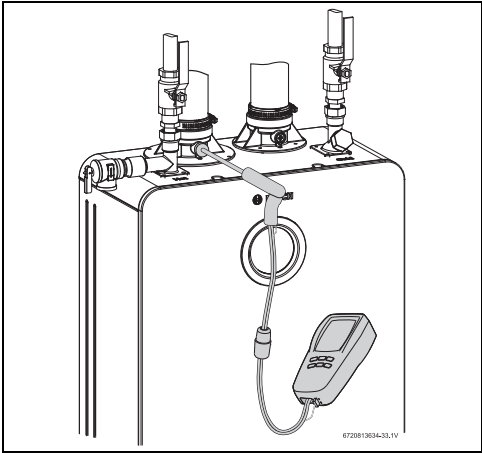

Fig. 63 Measuring port
- ▶ Remove the screw from the flue adaptor on the left side of the appliance, as seen in fig. 63.